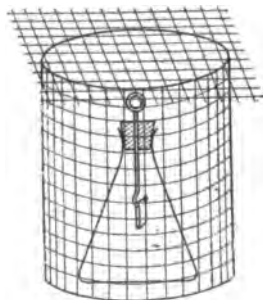

FIG. 205.—The wire screen protects the electrostatic shield.
**226. An electric screen** is a device for cutting off the influence of an electric charge. Faraday found that if a sensitive electroscope is surrounded by a wire mesh screen (see Fig. 205), no evidence of electrification could be found inside. In other words, a network of conductors on a building makes the best protection against lightning, provided it is connected to the earth by good conductors at several places.